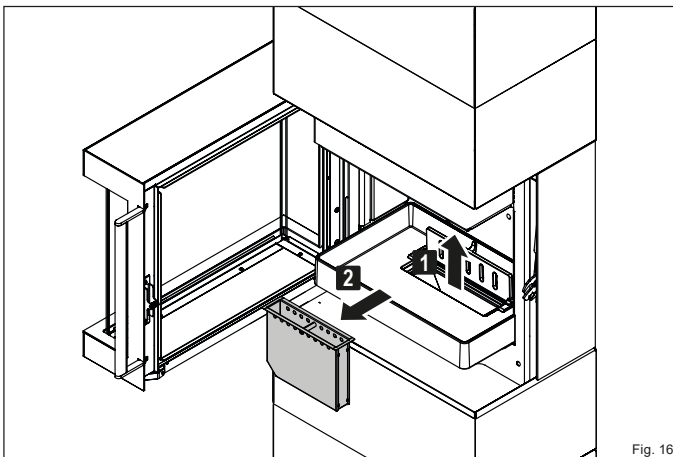

Fig. 16
- ▶ **Pull the ash drawer out of the opening by the handle (Fig. 16).**
- ▶ Pull the ash drawer out of the opening by the handle (Fig. 16).